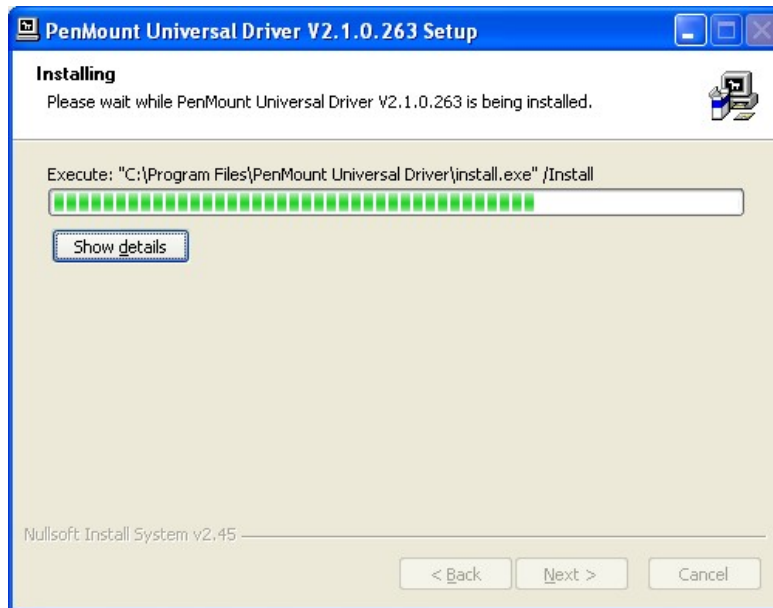

Figure 5-25: Touchscreen Driver Installation Screen
Step 10: The **Install** screen appears and displays the progress of the installation (Figure 5-25).